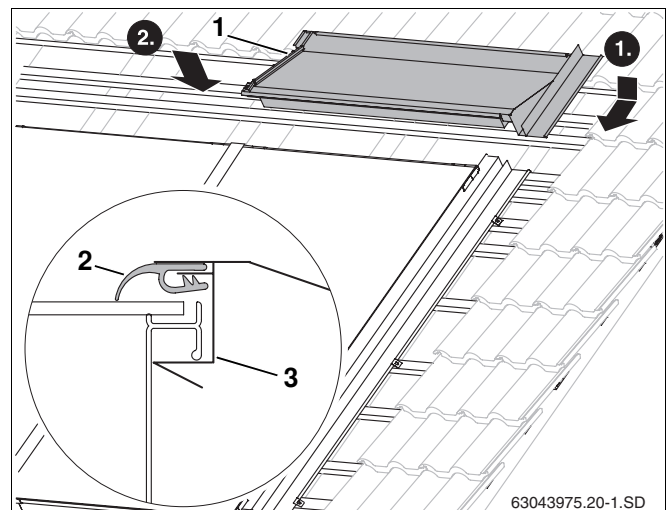

Fig. 56 Upper right facing collector
- Feed the upper right facing collector (Fig. 56, **Item 1**) into the side facing collector on the right.
- By applying pressure to the top of the facing collector, it clicks under the recessed channel on the collector frame (Fig. 56, **Item 3**).
- Place the rubber lip (Fig. 56, **Item 2**) on top of the collector.